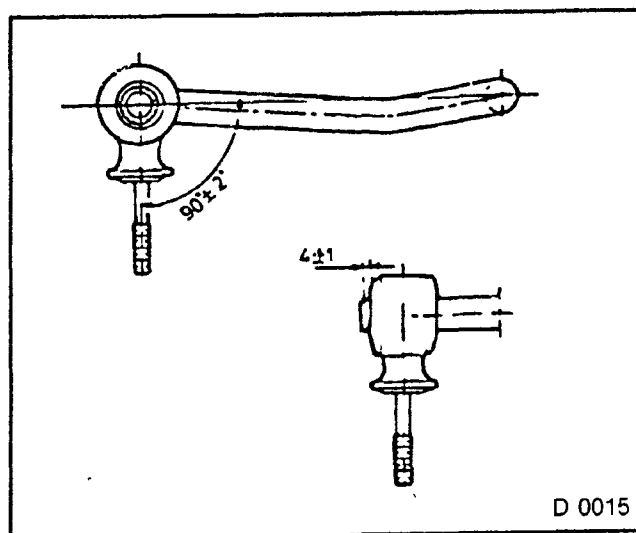

Fig. 79
2. Pendulum on stabilizer — if necessary, coat with liquid soap solution. See fig. 79 for installation position.